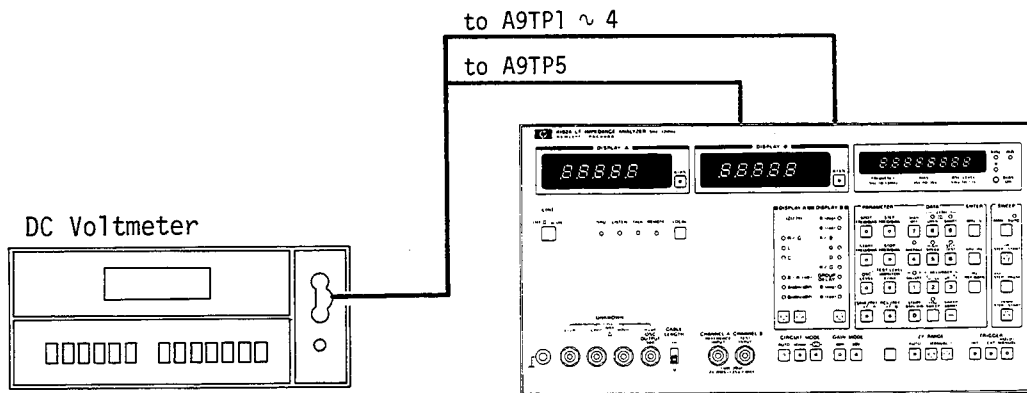

Figure 5-19. A9 Analog Recorder Output Check and Adjustment Setup.
- (1) +2V D-A Converter Reference Voltage Adjustment
- a. Connect the high input of the 3465A to A9TP1 and the low input to A9TP5 as shown in Figure 5-19.
- (2) 0V Reference Voltage Check